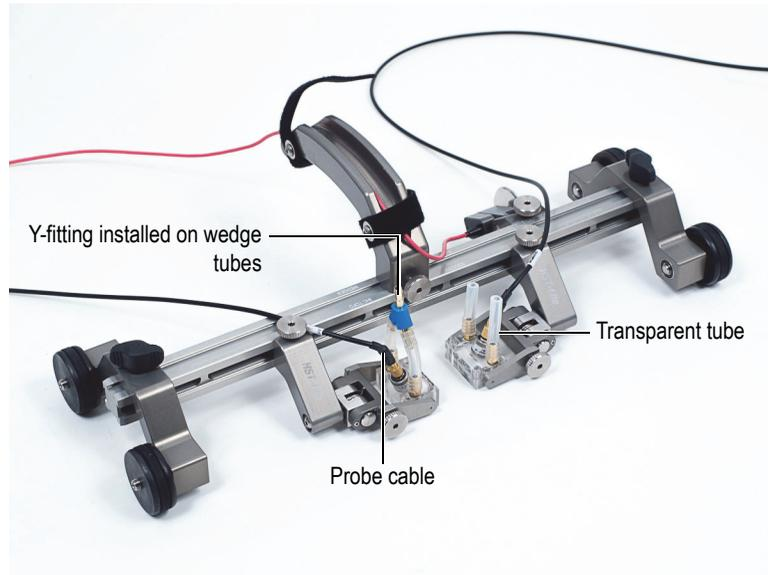

Figure 1-11 Transparent tubes installed on the wedges
5. Install the four transparent tubes on the wedges (see Figure 1-11 on page 17).
6. Install a Y-fitting on each pair of transparent tubes (see Figure 1-11 on page 17).